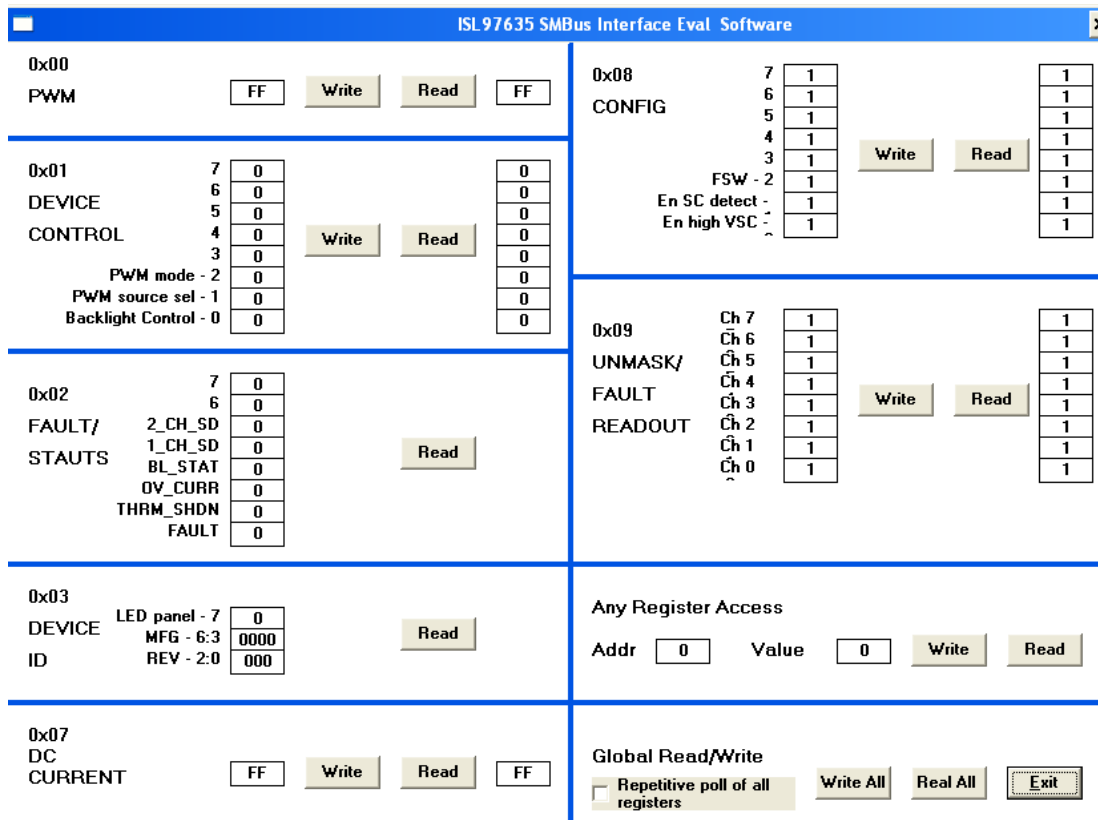

FIGURE 1. ISL97635 GUI
- Open the program at Start -> All Programs -> Intersil ISL97635 Eval Kit -> Intersil IS635 Eval Kit. Click **ISL97636** instead (This is a programming error that will be corrected in the next revision), the GUI is shown in Figure 1.